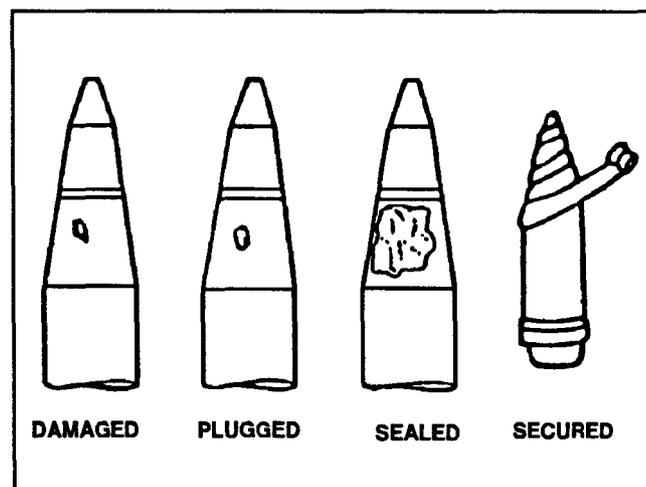

Figure 5-7. Sealing the leak.
- If a hole, puncture, or crack can be found, quickly try to plug or patch it. Use materials such as a rag, packing material, a wood chip, or putty. Bind the patch in place with adhesive tape, twine, or rope. See Figure 5-7.